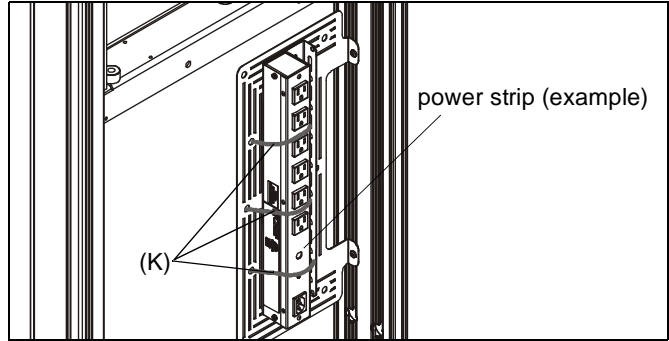

Figure 14
**WARNING:** Exceeding the weight capacity can result in serious personal injury or damage to equipment! It is the installer's responsibility to make sure the combined weight of all accessories and components installed to the component bracket (C) does not exceed 10 lbs (4.54 kg). Exceeding the weight capacity may result in damage to the equipment or components!
5. Install components to component bracket as desired using cable ties (K) or screws. (See Figure 14)